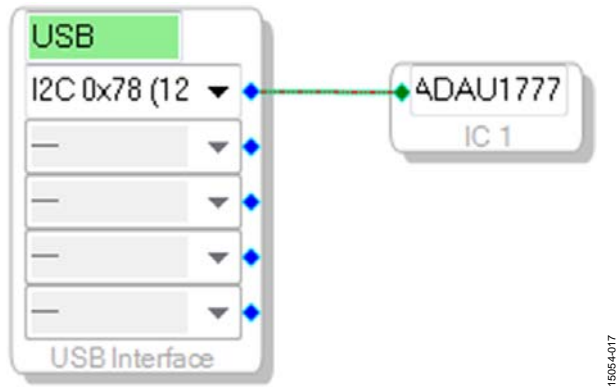

Figure 17. Connecting the USB Interface to an ADAU1777 IC
To use the USB interface to communicate with the target integrated circuit (IC), connect it by clicking and dragging a wire between the blue pin of the USBi and the green pin of the IC (see Figure 17). The corresponding drop-down box of the USBi automatically fills with the default mode and channel for that IC.